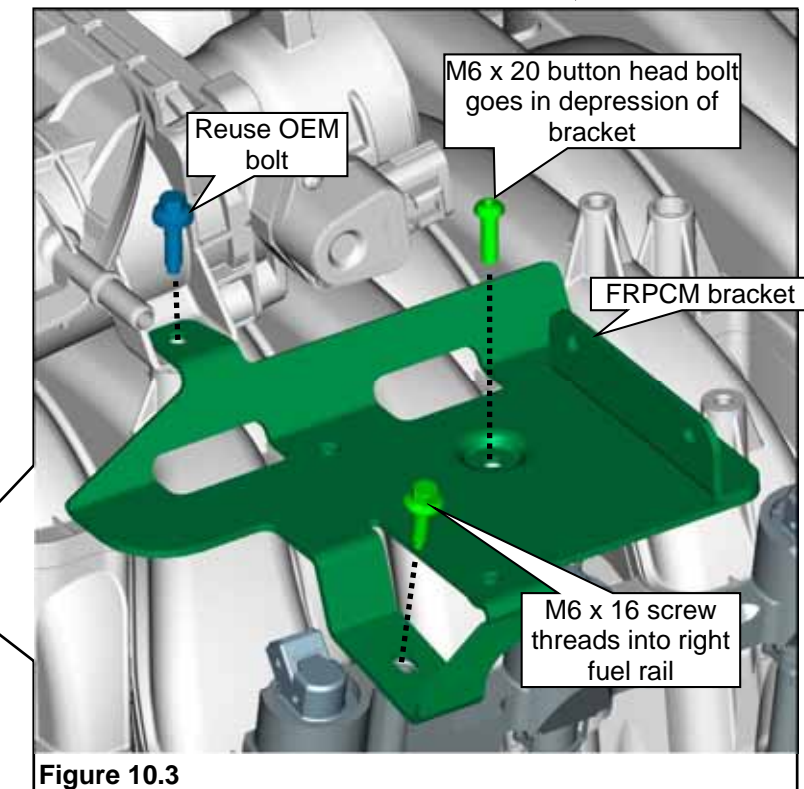

Figure 10.3
2. Position the FRPCM mounting bracket to the engine. **Figure 10.3.** Install the OEM throttle body adapter bolt, the button head bolt in the depression of the bracket and a third bolt at the rear of the bracket into the right fuel rail. Tighten bolts to 8–12 Nm.